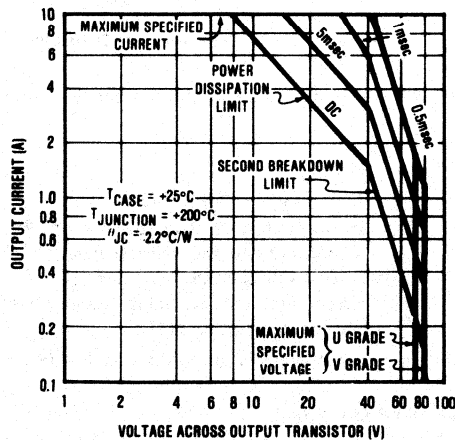

FIGURE 7. Transistor Safe Operating Area at +25°C Case Temperature.
**8.5 Safe operating area (SOA).** In addition to the limits imposed by power dissipation, the amplifier's output transistors are also limited by a second breakdown region. This occurs because of increased emitter current density due to current crowding at higher operating voltages. Both the dissipation and second breakdown limits depends on time and temperature. Figure 7 shows each output transistor's SOA at a case temperature of +25°C.